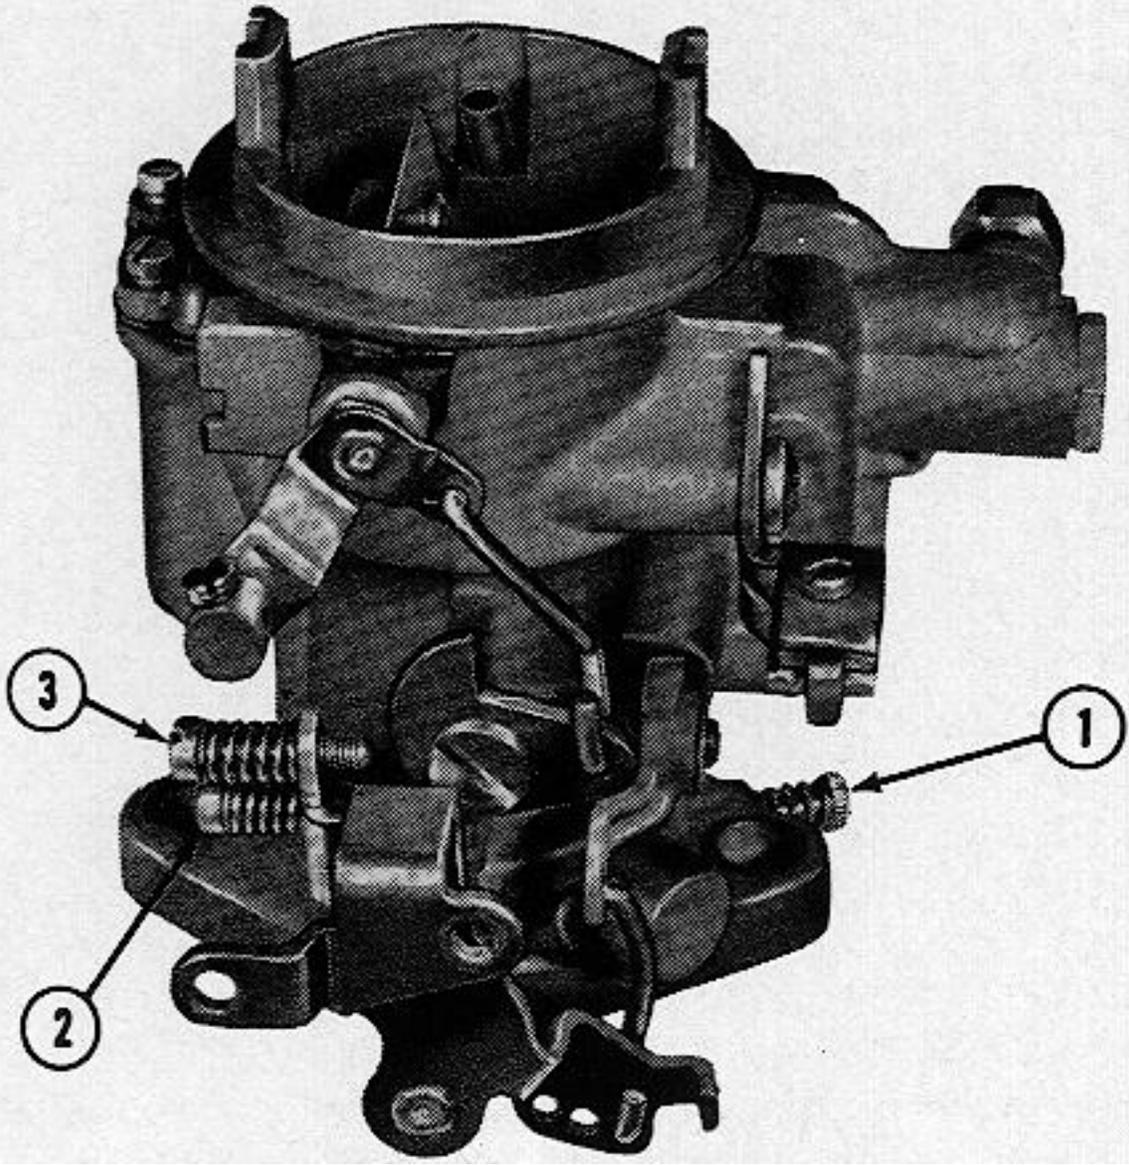

FIG. C-12—CARBURETOR ADJUSTMENTS
- a. Turn the idle mixture adjusting screw in; then back off approximately one turn until the smoothest idle point is obtained. Refer to Fig. C-12.
- b. Set the engine idle speed at 600 to 650 rpm. with idle speed adjusting screw. Refer to Fig. C-12.